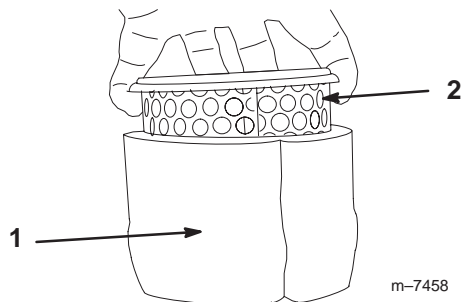

Figure 41
- Carefully slide the foam filter off of the paper filter (Fig. 41).